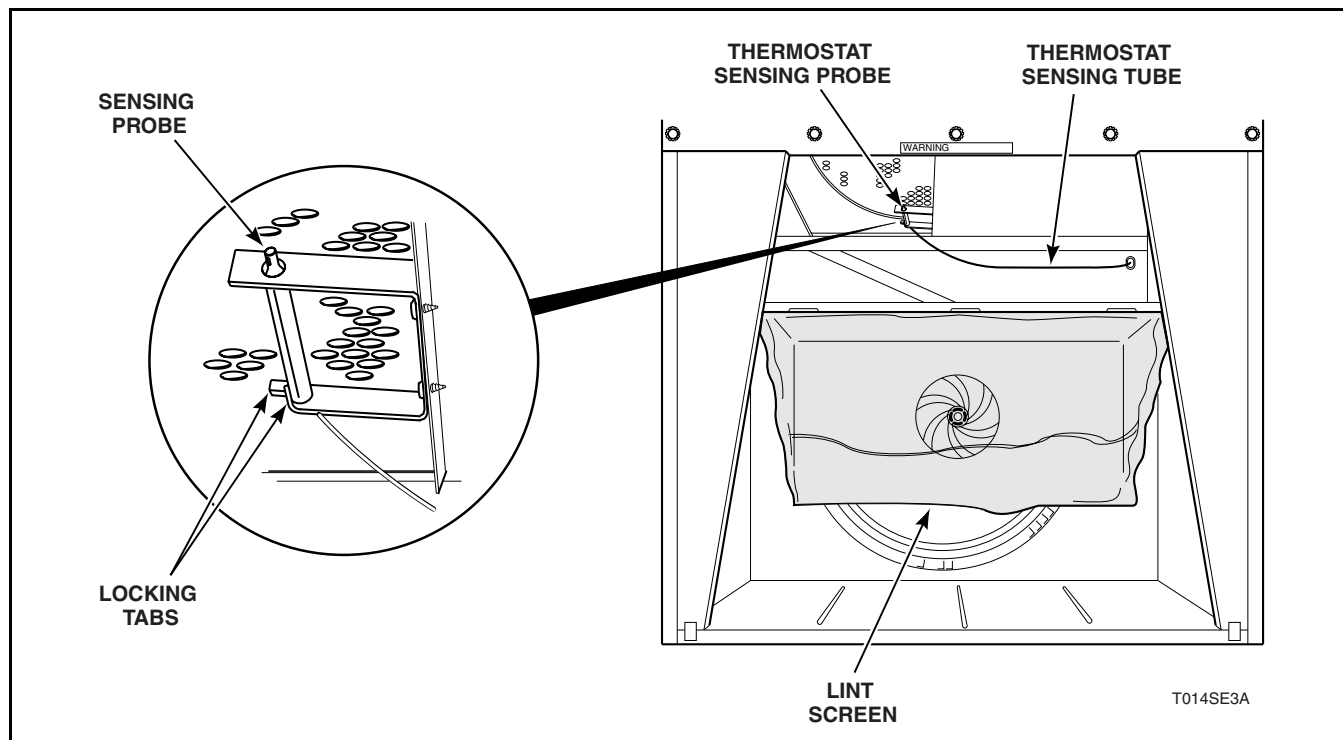

Figure 12
- Spread locking tabs on sensing probe bracket and disengage probe from bracket. Refer to *Figure 12*.